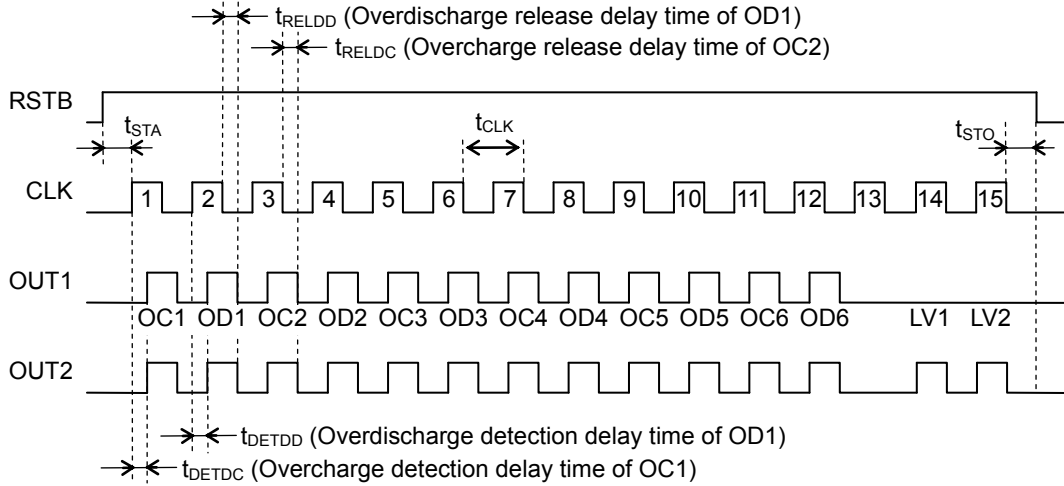

Figure 17
- 3rd to 12th clocks : Repeat the same operations as the 1st and 2nd clocks (Refer to **Figure 17**)
When clock signals are input to the CLK pin after "H" is input to the RSTB pin, the OUT2 pin output operates the same as the OUT1 pin output for the 1st to 13th clocks. The OUT2 pin output switches to the release status when "L" is input to the CLK pin for the 14th and 15th clocks. Alternatively, the OUT2 pin output switches to the detection status when "H" is input to the CLK pin (Refer to **Figure 17**).